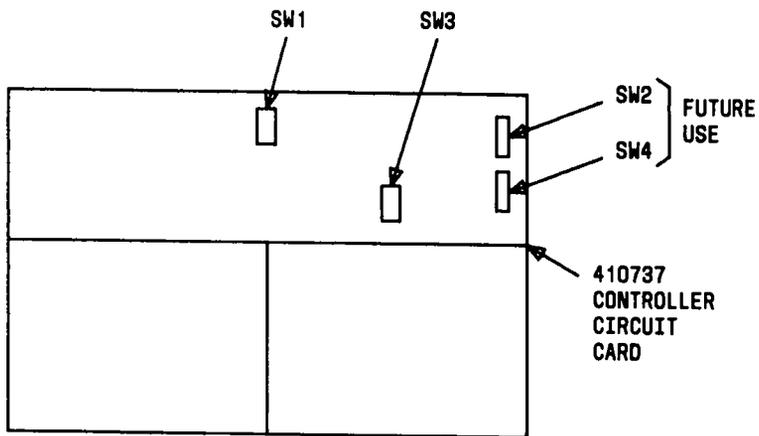

Fig. 7—Controller Circuit Card 410737
**7.04** The 410737 card is optioned by setting miniature rocker/toggle switches. Table F shows the proper switch positions, and Fig. 7 shows the location of the switches.